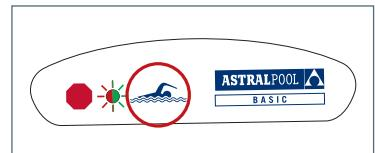

fig.3 - Basic™ activation zone above the cover
- place and leave the magnet on the swimmer symbol (fig. 3) on the central unit until the Remota™ emits a long beep and a code is displayed on its screen in the form "ID: XXXX – XXXX" (the X's being digits and letters).